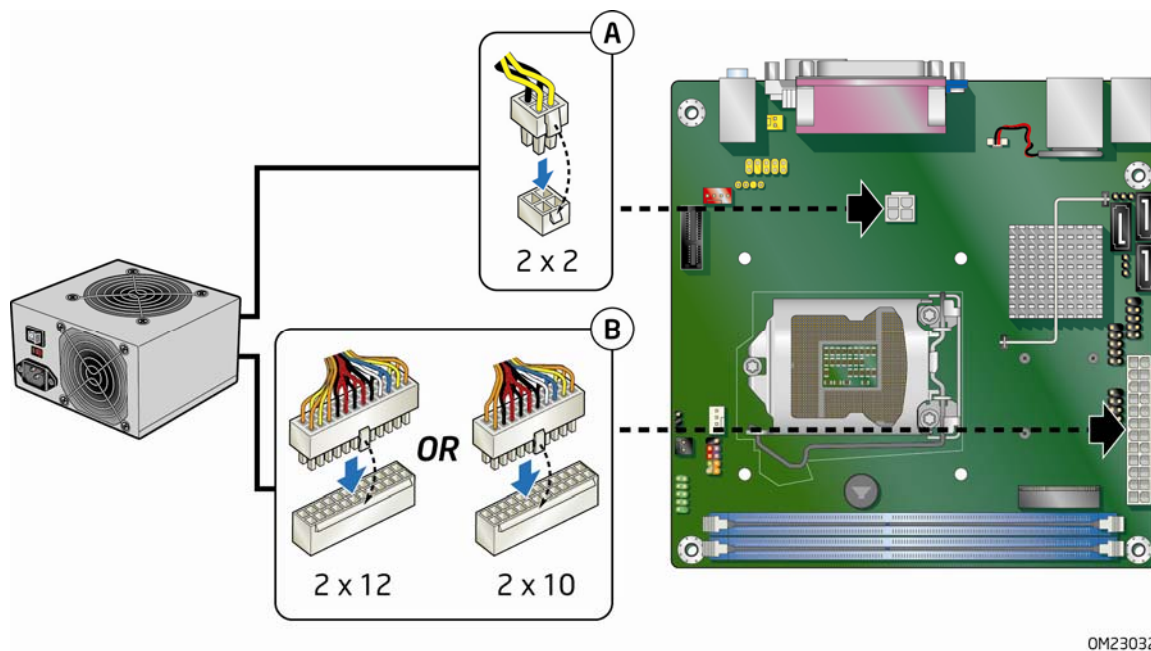

Figure 22. Connecting Power Supply Cables
Failure to use an appropriate power supply and/or not connecting the 12 V power connector (Figure 22, A) to the Desktop Board may result in damage to the board or the system may not function properly.
Figure 22 shows the location of the power connectors. The 2 x 12 pin main power connector (Figure 22, B) is backwards compatible with ATX12V power supplies with 2 x 10 connectors.
2. Connect the 12 V processor core voltage power supply cable to the 2 x 2 pin connector (Figure 22, A).
3. Connect the main power supply cable to the 2 x 12 pin connector (Figure 22, B).